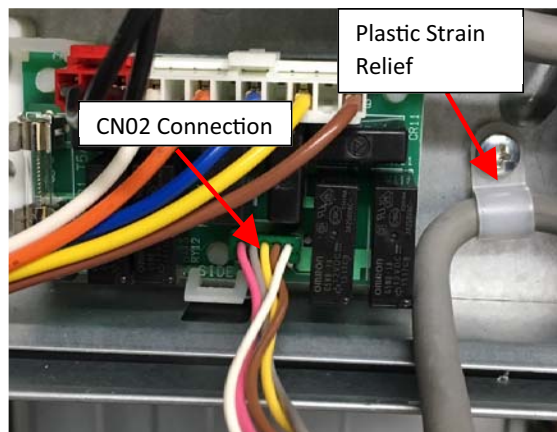

Fig. 58 - CN02 Connector and Plastic Strain Relief
6. Connect the green connector of the control wire to CN02 on the FS box control board. Apply the plastic strain relief mounted to the FS box. See Fig. 58.